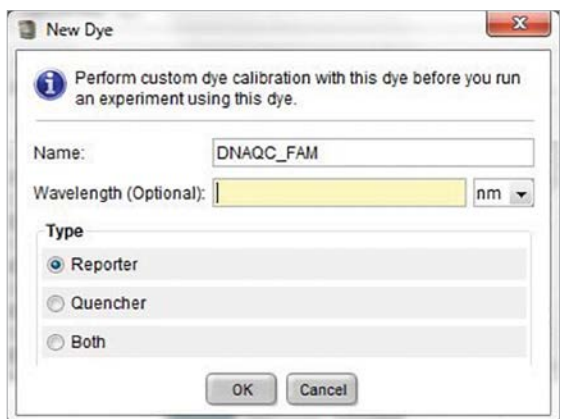

Figure 4. Naming the new dye.
- Enter “DNAQC_FAM” as the new dye name, select the “Reporter” radio button under “Type” and then select “OK” (Figure 4). Repeat this process to define the CFG540 (define as DNAQC_CFG540), TAMRA (define as DNAQC_TMR), CXR (define as DNAQC_CXR) and Q670 (define as DNAQC_Q670) dyes. For compatibility with the ProNex® DNA QC Analysis Software, use the recommended dye names.